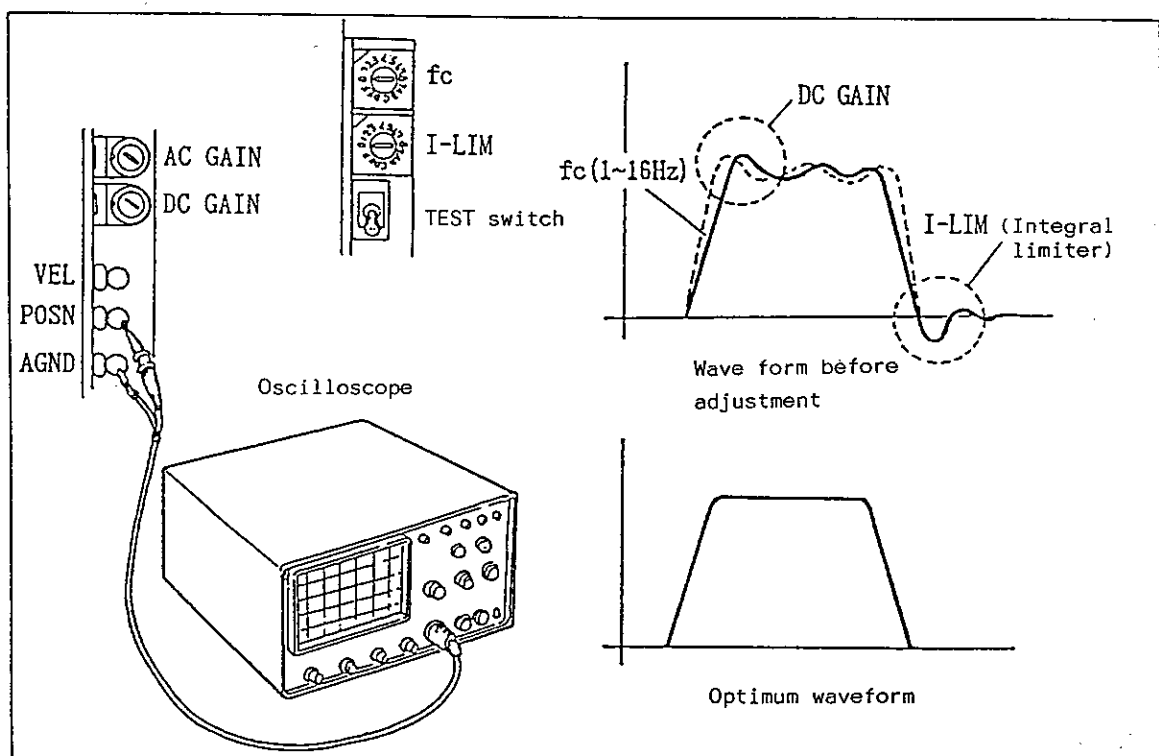

Figure 5.2
(3) Position control system adjustment procedure (See Figure 5.2)